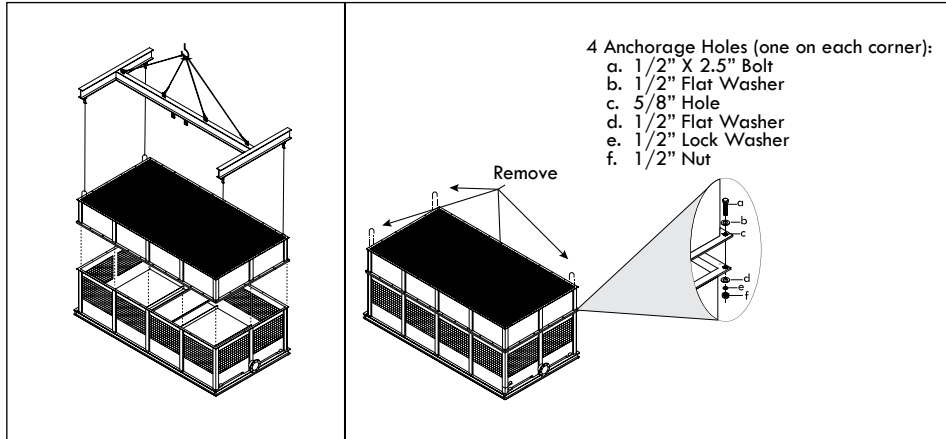

Figure A-49: Lower body section installation for an RTG-D, RTG-E, RTGTC-G and RTGTC-H models.
- J. **Only if your Tower is an RTG-D, RTG-E, RTGTC-G or RTGTC-H model:** It includes an additional part of body section (Lower Body section). Place Lower Body section on top of basin section, then bolt down and secure the horizontal flanges with the stainless steel nut and bolt sets supplied by REYMSA (see figure A-49).
- K. After the Lower Body section has been set in place, remove the U-bolts located on the flange before installing the Upper Body section (see Figure A-49).